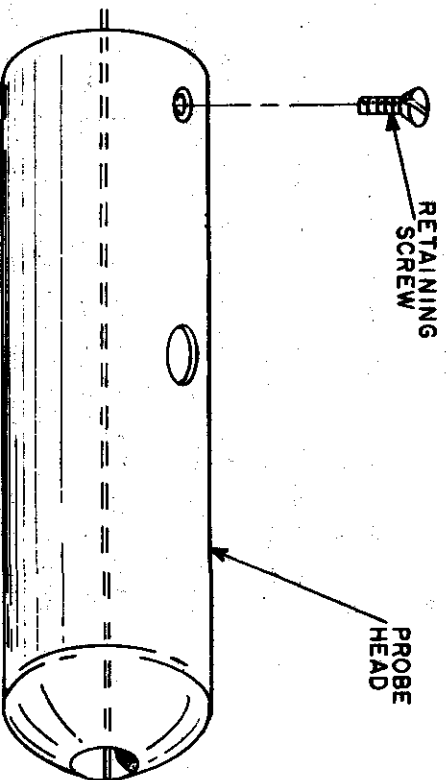

FIGURE 15C
- (✓) Insert the assembled parts into the probe head. The small hole in the side of the 3-pin socket must line up with the hole in the probe head. Tighten the small screw into this hole. See Figure 15C.